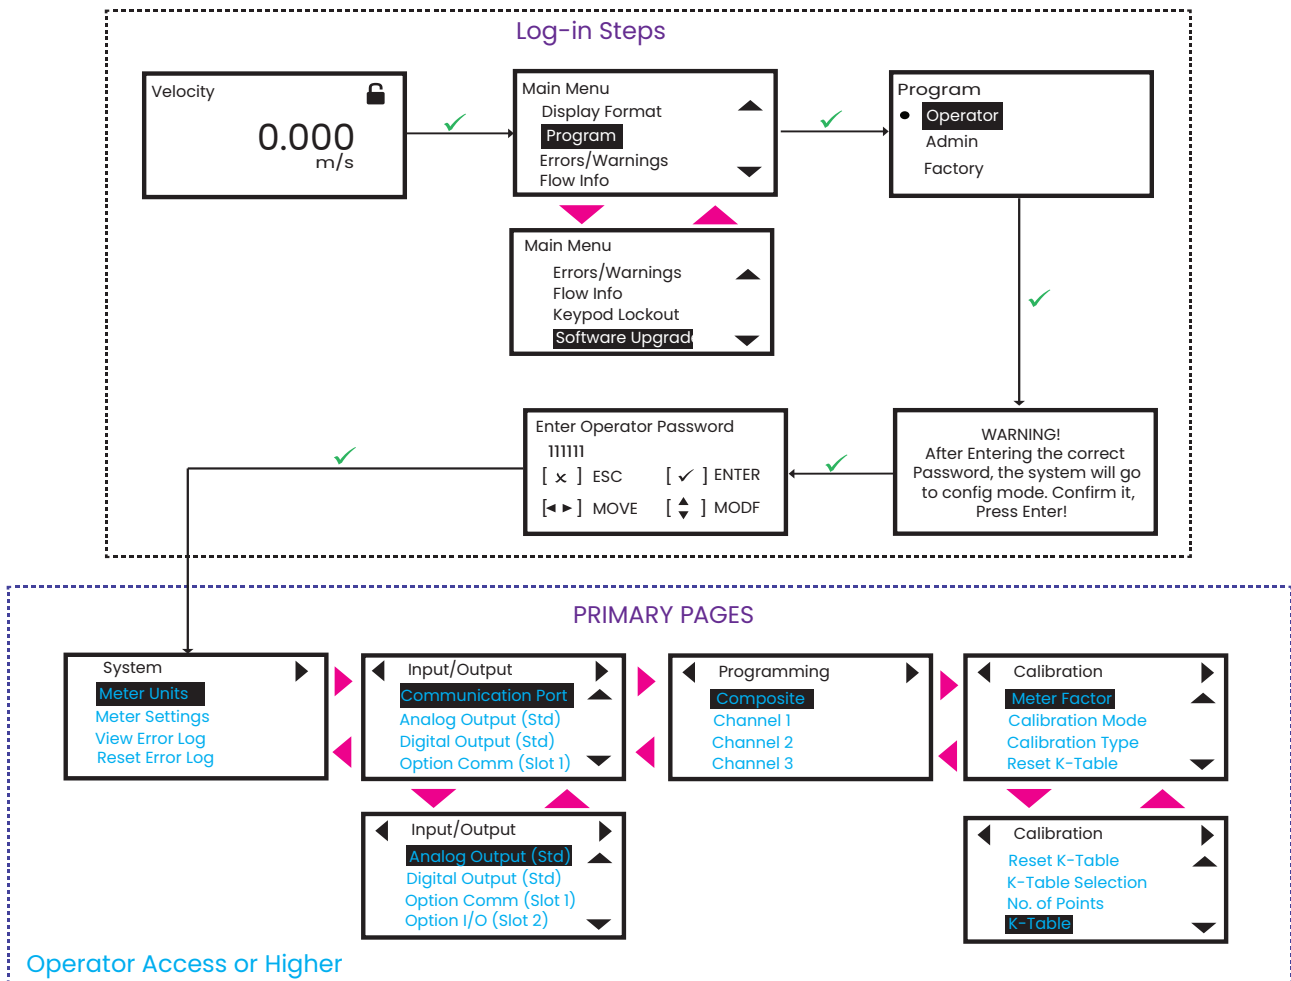

Figure 53: Log-in steps and primary pages
5. After completing the log-in steps you will see the primary pages as shown in the Figure 53. To move from one page to the next, press [◀] or [▶] and to scroll to options within a page press [▲] and [▼].